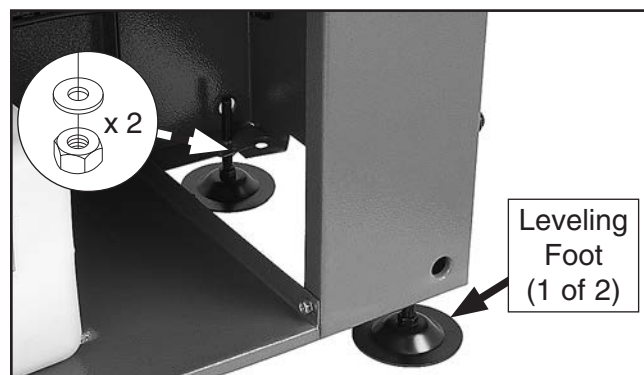

Figure 25. Leveling feet attached.
- Install (1) $\frac{3}{8}$ "-16 hex nut and $\frac{3}{8}$ " flat washer onto each leveling foot, then thread feet into front base of cabinet, as shown in **Figure 25**.